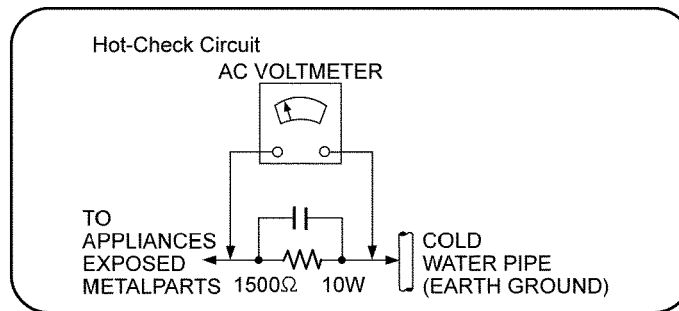

Figure. 1
2. Connect a  $1.5\text{k}\Omega$ , 10 watts resistor, in parallel with a  $0.15\mu\text{F}$  capacitors, between each exposed metallic part on the set and a good earth ground such as a water pipe, as shown in Figure 1.